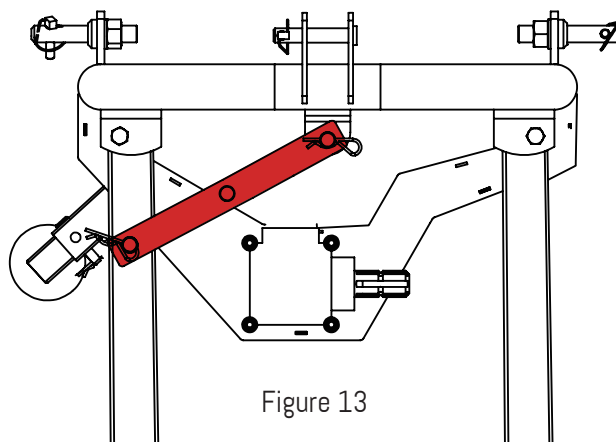

Figure 13
5. In the transport position, the safety plate must be inserted into place, as shown in Figure 13.